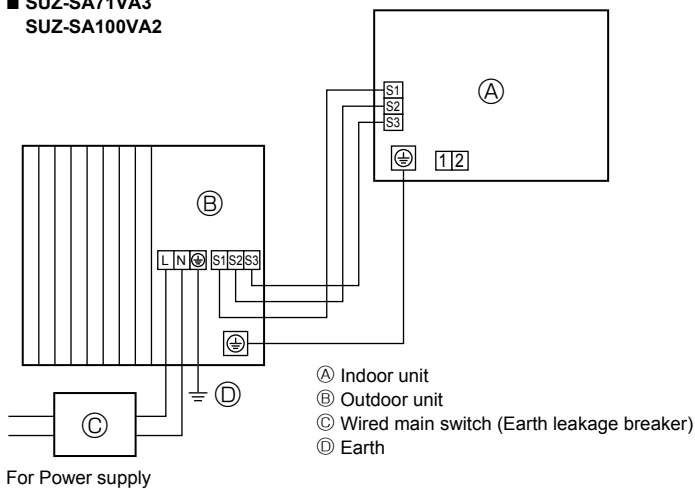
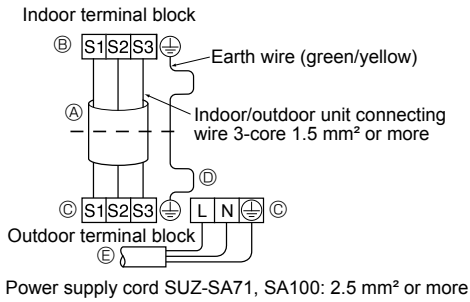
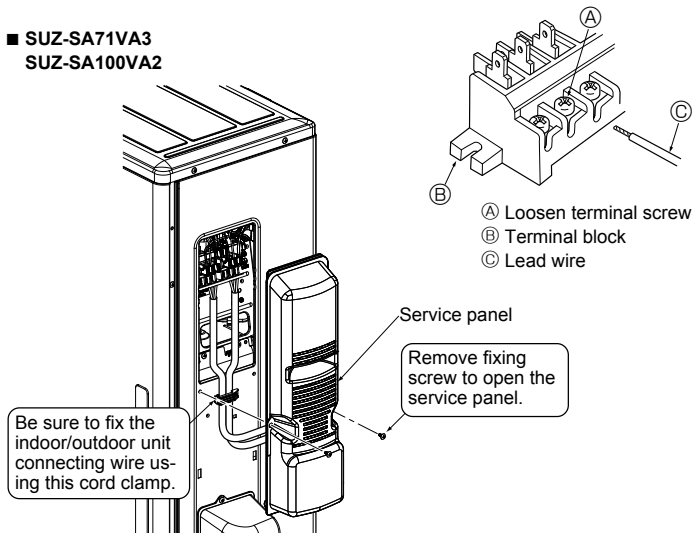

Fig. 5-1
Fig. 5-2
Fig. 5-3
5.1. Outdoor unit (Fig. 5-1, Fig. 5-2, Fig. 5-3, Fig. 5-4)
- ① Remove the service panel.
- ② Wire the cables referring to the Fig. 5-1, Fig. 5-2, Fig. 5-3 and the Fig. 5-4.
- Perform wiring as shown in the diagram to the lower left. (Procure the cable locally) (Fig. 5-2)
- Use care not to make miswiring. (Fig. 5-3)